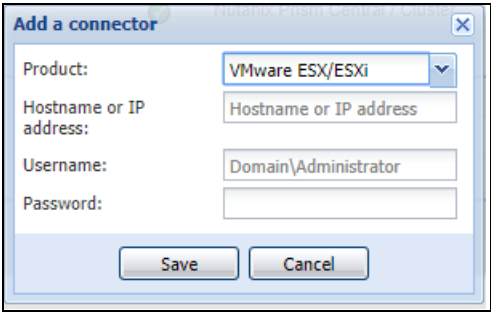

Figure 97. Add VMware ESX/ESXi
2. Add identification information for the selected connector (see Figure 97)